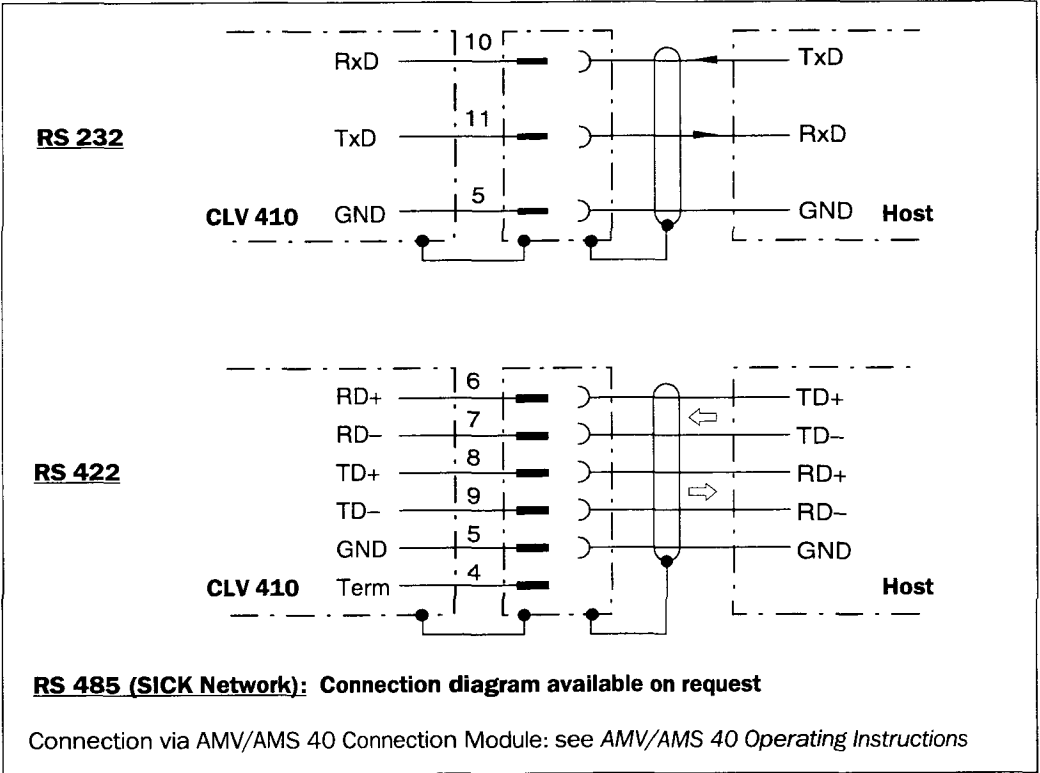

Fig. 4. Connecting the host interface
- Connect the host interface of the CLV to the host in accordance with the EMC requirements using shielded cables(*Fig. 4*)